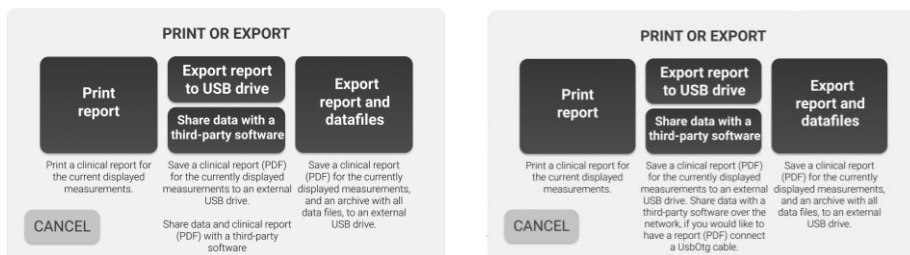

Figure 64 - Share data with third-party software
- Select *Share with a third-party software* to export the session data through the USB-OTG port or through ethernet cable to a third-party software (**Figure 64**).